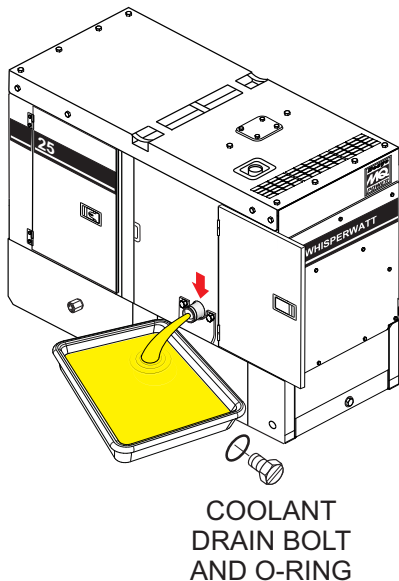

Figure 72. Draining Engine Coolant
2. Open the cabinet door and remove the **coolant drain bolt and O-ring** (Figure 72), then allow the coolant to drain into a suitable container.